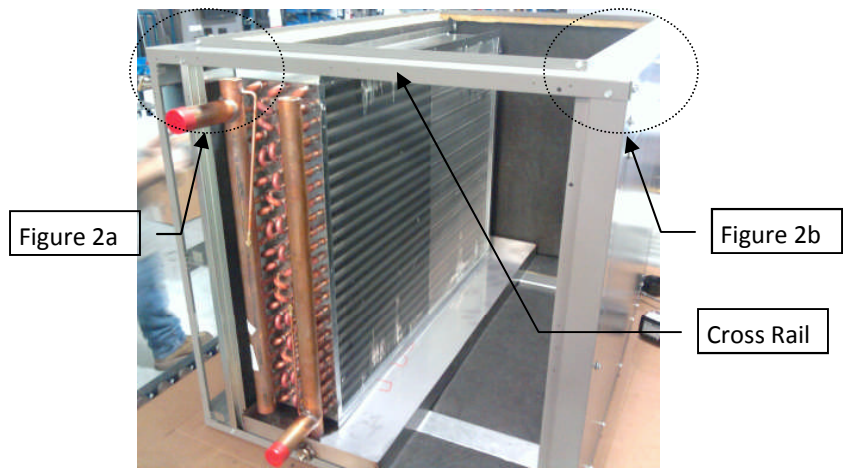
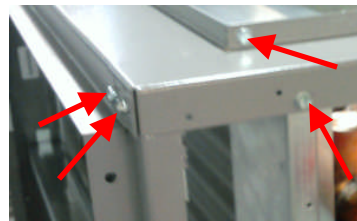
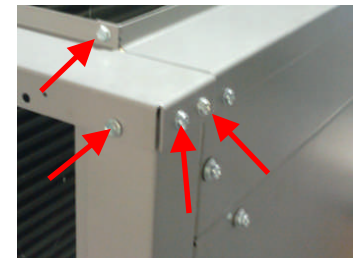

Figure 1-BMB Coil Section
Figure 2a-Filter Side of Coil
Figure 2b-Filter Side of Coil
2. Isolate and drain coil from heating/cooling fluid and/or reclaim refrigerant. Disconnect unit from piping. Remove supply piping to allow access into the coil section from the side. Remove coil section access panel. Figure 1 shows coil section with top airflow panel removed and the coil access panel removed. Note that there is another coil access panel on the opposite side of the coil.
4. Remove screws at filter side of coil (Figure 2a) and far side from coil (Figure 2b). Remove cross rail (Figure 1).